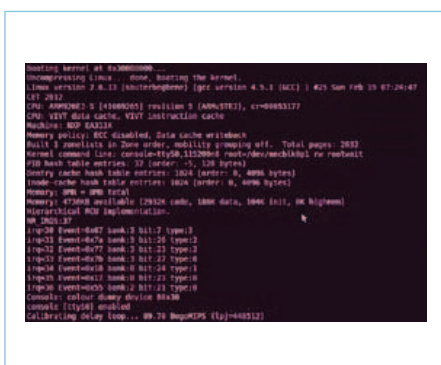

Figure 8. Messages from the Linux kernel during boot.
- The kernel unpacks itself and then automatically starts up (**Figure 8**).